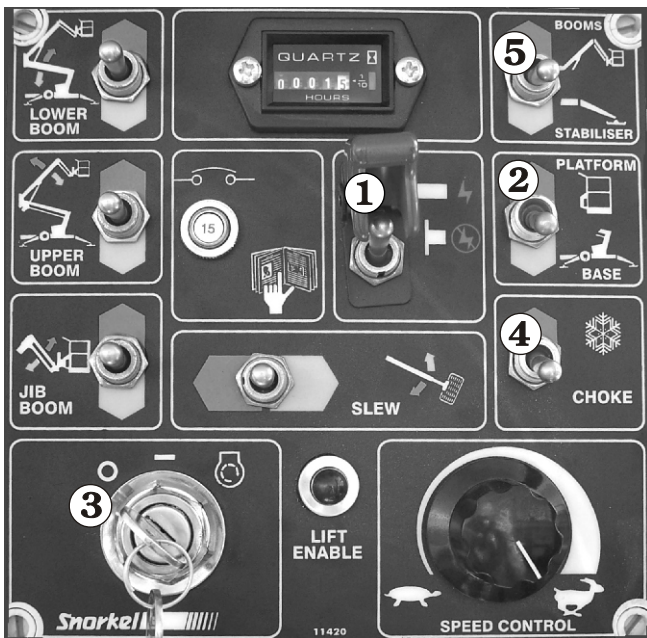

Figure 8.3 - Ground Control Box Starting
1. Set the **Emergency Stop** switch ❶ to ON (see Figure 8.3).
2. Set the **Platform/Ground Selector** switch ❷ to GROUND (see Figure 8.3).
3. Insert the key ❸ (see Figure 8.3) into the **Master Key Switch** and turn the key on.
4. If the engine is at ambient temperature (cold), hold the **Choke / Cold Start Switch** ❹ (see Figure 8.3) up throughout the next step.
5. Turn the key to **Start** and hold it there until the engine starts or for a maximum time of 6 seconds. When the engine starts release the key ❸ and the choke switch ❹, if you used it (see Figure 8.3).
Ensure the boom/stabilizer switch (item ❺ on the ground control box) (see Figure 8.3) is set to stabilizer.